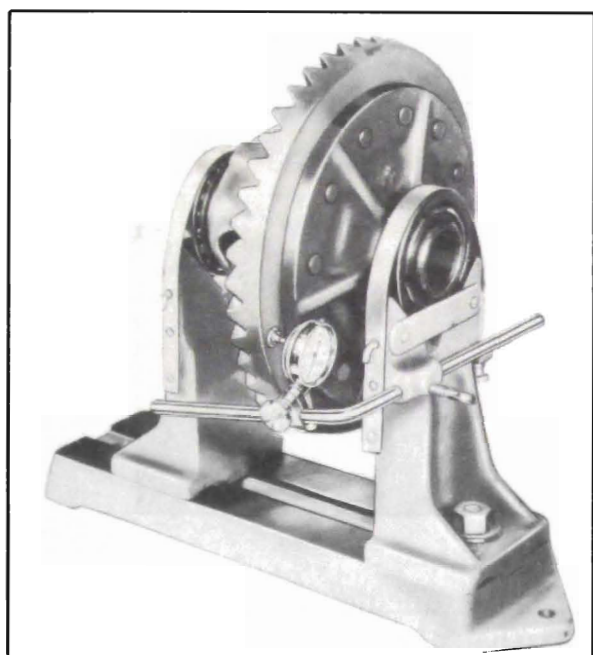

Figure 5-16—Checking Run-Out of Ring Gear in Fixture U 4-B
6. Place bolted assembly in Test Fixture U4-B and check run-out of back side of gear. See figure 5-16. If run-out exceeds .003", check for burrs, uneven bolting condition, or distorted case flange.
9. After all rivets are installed, recheck for run-out at back of gear. See figure 5-16. Run-out must not exceed .003".